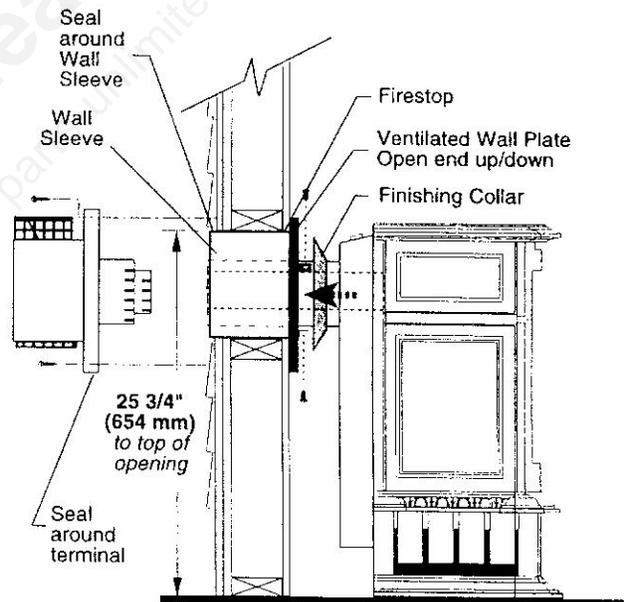

Figure 3-24. Rear Vent Kit 7TFMSK installation.
See Fig. 3-24.
2. Measure the wall thickness and cut the Wall Sleeve halves to proper length, (MAXIMUM 12"). Assemble the sleeve with the #8 sheet metal screws supplied. Attach the Firestop plate to the sleeve end with the holes. Fig. 3-24. **NOTE: The Wall Sleeve is required in combustible walls only.**
4. If necessary, measure to determine the length of pipe required from the Starter pipe to the exterior wall surface, including a 2" overlap at the joint. Fig. 3-24. Use a hacksaw to trim the pipe as necessary. The maximum length of this section is 20" (508 mm).